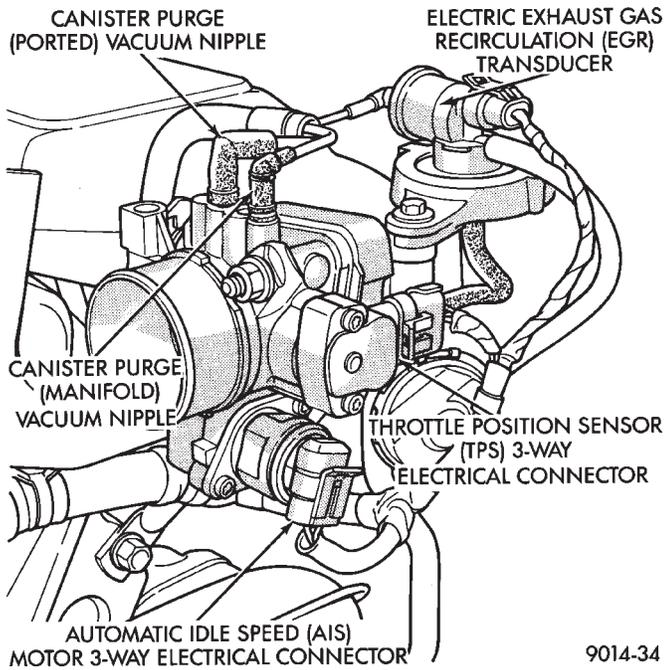

Fig. 4 Electrical and Vacuum Connection to Throttle Body
- (5) Remove automatic idle speed (AIS) motor and throttle position sensor (TPS) wiring connectors from throttle body (Fig. 4).
- (6) Remove vacuum hose harness from throttle body (Fig. 4).